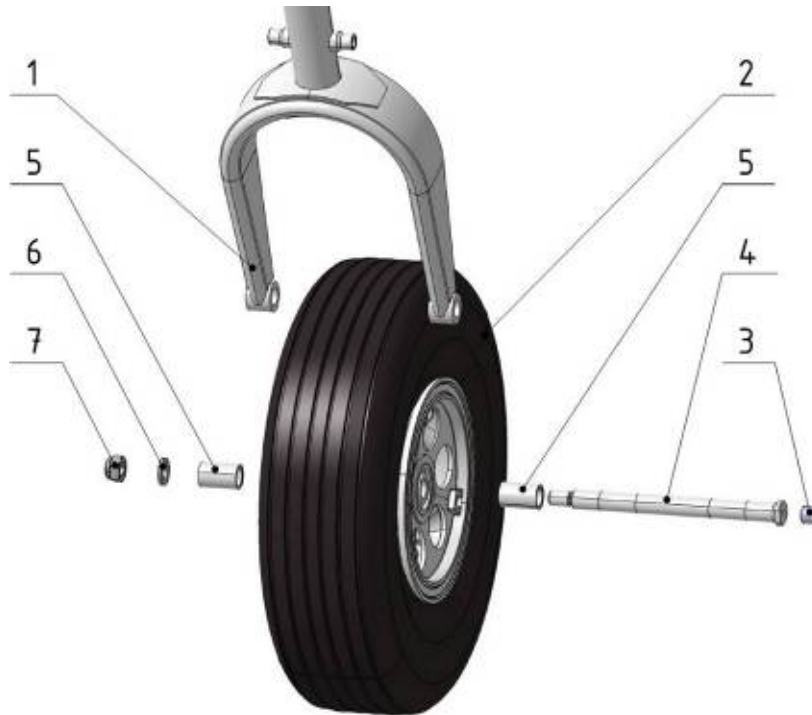

Fig. 32-20-5
B. Nose Wheel Uninstalling (Fig. 32-20-5)
C. Nose Wheel Installing (Fig. 32-20-5)